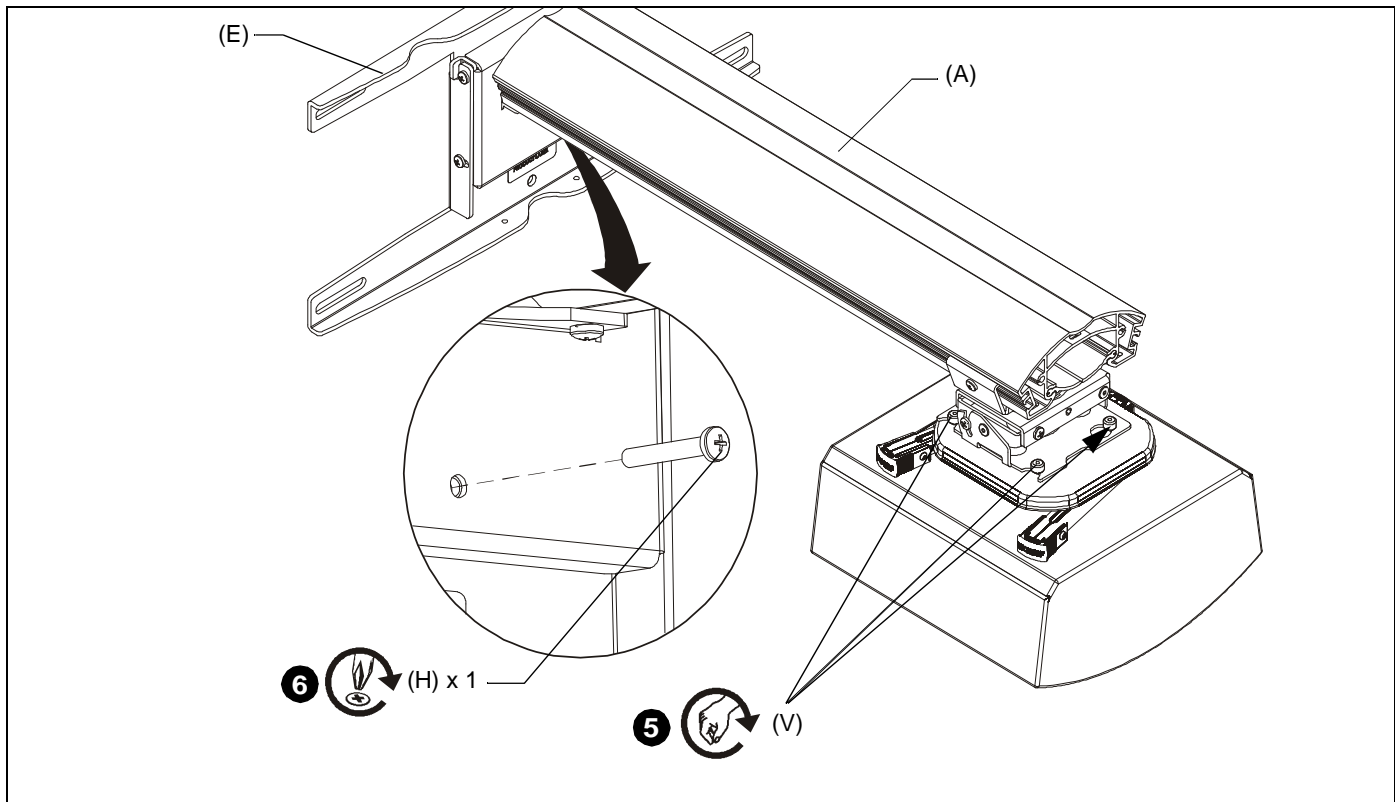

Figure 12
5. Turn thumb nuts until tight to secure projector to projector arm. (See Figure 12)
6. Tighten the M5x35mm button head cap screw (H) on the wall plate (E). (See Figure 12)